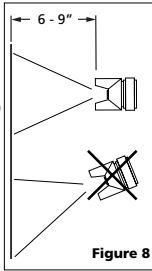

Figure 8
- Begin spraying. Always keep the gun at right angles to the work (See Figure 8).